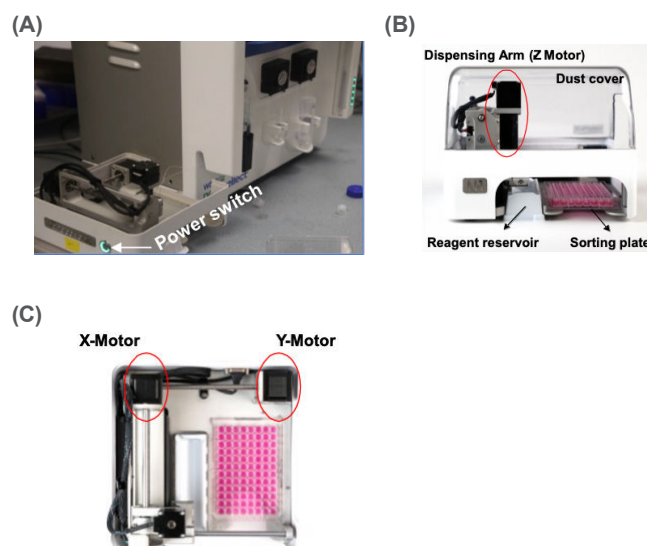

Figure 60. The N1 Single-Cell Dispenser anatomy.
4. Power on the N1 by pressing the module power button. The power button should be facing away from the WOLF G2, as shown in the image above (Fig. 60 A).
5. Insert the waste tray (reagent reservoir) into its respective slot within the N1 Single-Cell Dispenser (Fig. 60 B).